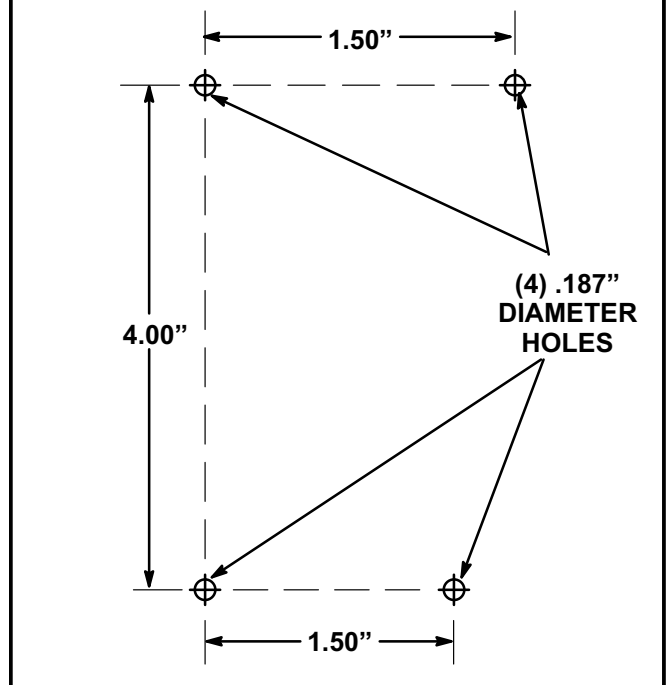

FIGURE 11
- 1- Use self-tapping screws to secure board where possible. Figure 11 may be used as a template.